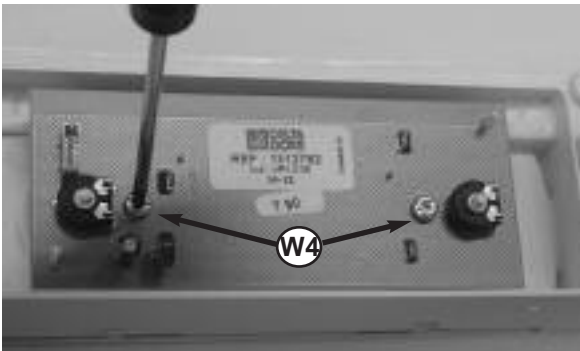

Fig. 110
- To remove the display PCB, remove the two screw **W3** and lift the PCB out (see *Fig. 110*);